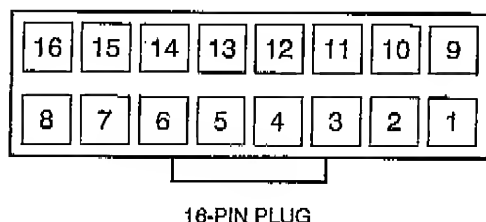

Fig. 9—Wiring Harness 16-Pin Plug
- Check for 24v between pin-1 and pin-12 on the 16-pin plug. If no voltage is present, replace wiring harness. (See Fig. 9.)
- If voltage is present, jumper screw terminal R-Y/Y2 on circuit board and check for 24v between pin-12 and pin-14 on 16-pin plug. (See Fig. 9.) If no voltage is present, replace harness.